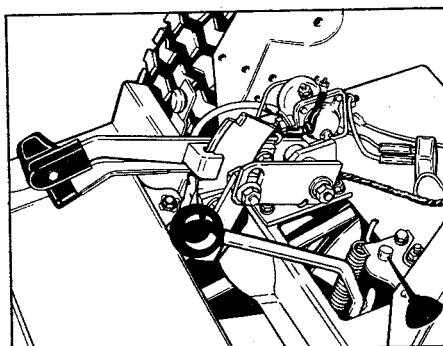

Figure 7. Lubricate the Pivot Points of the Gear Shift Lever
- Lubricate the tractor and mower as shown in figures 7 thru 13. Where an oil can is pictured, wipe the area clean, apply a few drops of medium weight (SAE 30) oil and then wipe up any drips or spills. Where a grease gun is pictured, wipe the fitting clean, apply two or three shots of lithium base automotive grease, then wipe off excess grease. Keep oil off belts and pulleys.